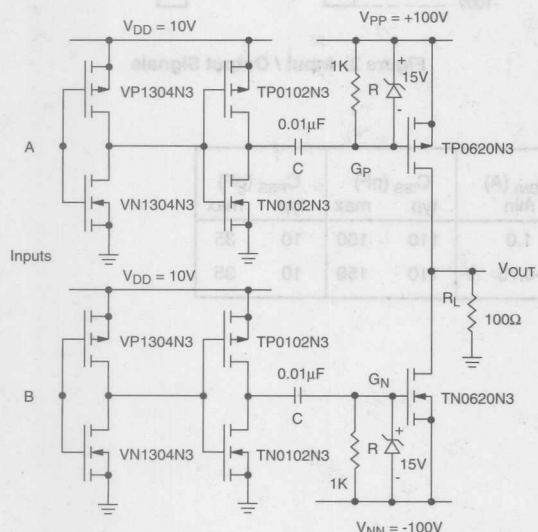

Figure 1. High Voltage Pulser
The high voltage pulser circuit shown in Figure 1 utilizes Supertex complementary N- and P-channel DMOS transistors to achieve excellent performance and efficiency with minimal components. The output voltage swings are -100V to +100V. Rise and fall times are less than 10 nsec while sourcing and sinking over 0.75 and 1.0 amps respectively. The output is conveniently controlled by TTL or CMOS input signals.
The high voltage pulser in Figure 1 consists of 3 basic stages: (A) input signal interface, (B) high current buffer and level translation, and (C) high voltage and current output drivers. Each stage has its own specific requirements for device parameters, which will be discussed in the following section.